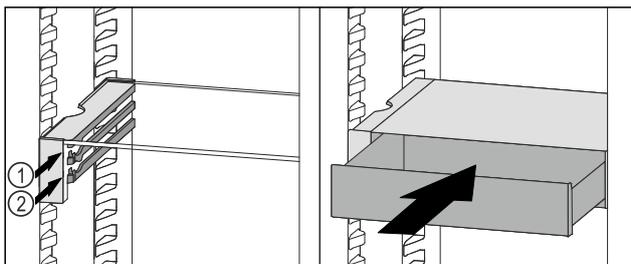

Fig. 83
- ▶ Place the VarioSafe drawer behind the stoppers on desired rib Fig. 83 (1) or Fig. 83 (2).